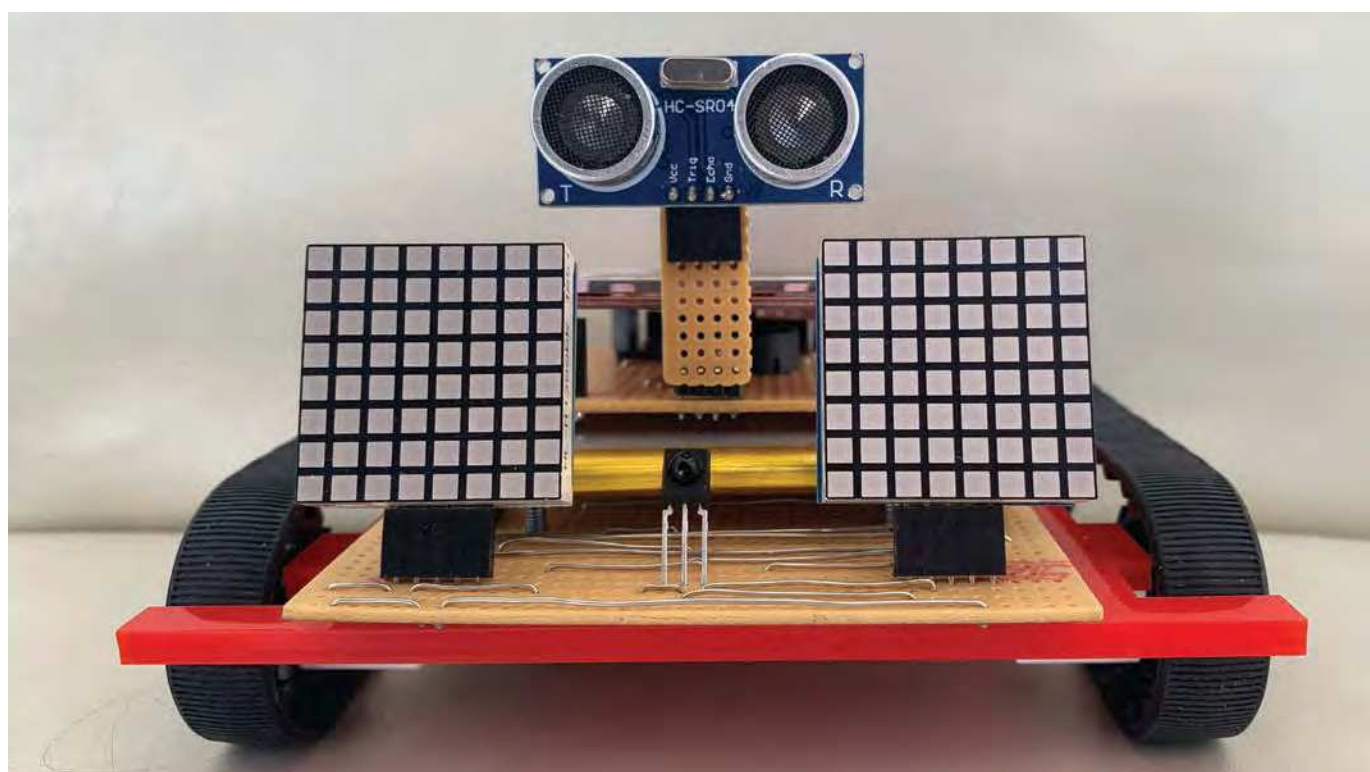

Fig.39. By adding an ultrasonic distance module, the *MRB* can be programmed to avoid crashing into objects.
**W**e now come to the last part of our *Micromite Robot Buggy (MRB)* mini series. The objective this month is to enable it to roam autonomously without crashing into anything, which means it will need to have some form of obstacle avoidance mechanism. So, this month we are going to show you how to implement this feature by using a low-cost ultrasonic distance sensor mounted on the front of the *MRB* (see Fig.39). This will require us to make a simple hardware modification to the TFT module that we originally assembled back in *Part 15*. For our *MRB* program code to interface with the ultrasonic distance sensor, we will use the Micromite *DISTANCE* command. As usual, MMBASIC greatly